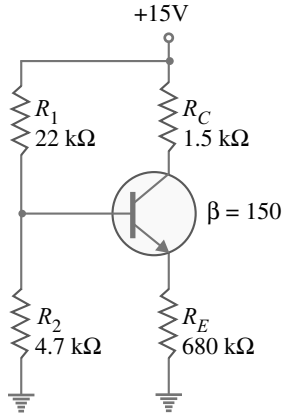

Fig. 7.66
15. What is the minimum value of  $\beta$  in Fig. 7.66 that makes  $R_{in(base)} \geq 10 R_2$ ? [69.1]